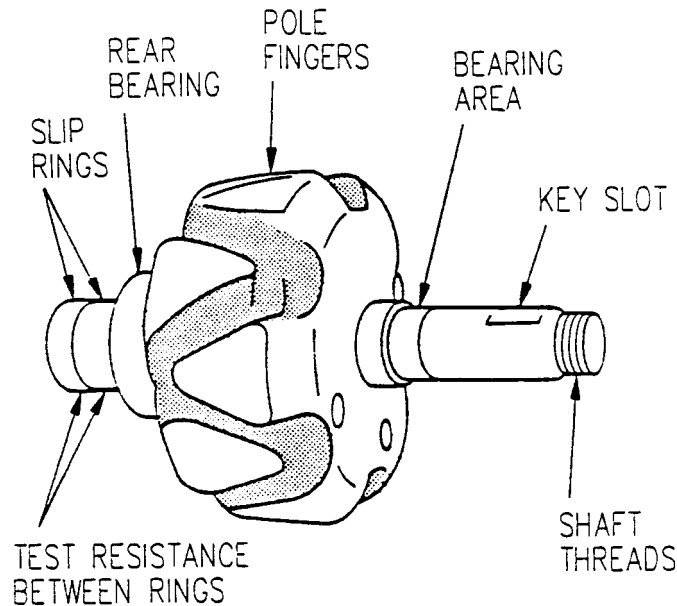

Figure 5-46. Rotor Test
- (5) Using multimeter set for ohms, check rotor for between 3 and 3.5 ohms between slip rings (Figure 5-46). Also check for open circuits between rotor body and each slip ring. Replace entire rotor assembly if indications are other than stated.